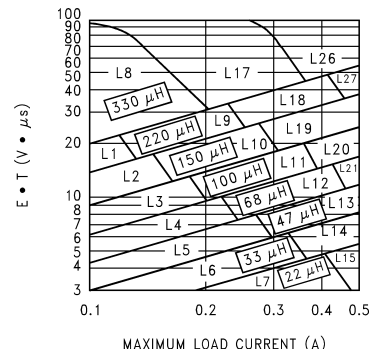

Figure 24. LM2594/LM2594HV-ADJ
<p>2. Output Capacitor Selection (C_{OUT})</p> <p>A. In the majority of applications, low ESR (Equivalent Series Resistance) electrolytic capacitors between 82 μF and 220 μF and low ESR solid tantalum capacitors between 15 μF and 100 μF provide the best results. This capacitor should be located close to the IC using short capacitor leads and short copper traces. Do not use capacitors larger than 220 μF.</p> <p>For additional information, see OUTPUT CAPACITOR section in Application Information section.</p> <p>B. To simplify the capacitor selection procedure, refer to the quick design component selection table shown in Figure 24. This table contains different input voltages, output voltages, and load currents, and lists various inductors and output capacitors that will provide the best design solutions.</p> <p>C. The capacitor voltage rating for electrolytic capacitors should be at least 1.5 times greater than the output voltage, and often much higher voltage ratings are needed to satisfy the low ESR requirements for low output ripple voltage.</p> <p>D. For computer aided design software, see Switchers Made Simple™ version 4.1 or later.</p>	<p>2. Output Capacitor Selection (C_{OUT})</p> <p>A. See OUTPUT CAPACITOR section in Application Information section.</p> <p>B. From the quick design component selection table shown in Figure 24, locate the 5V output voltage section. In the load current column, choose the load current line that is closest to the current needed in your application, for this example, use the 0.5A line. In the maximum input voltage column, select the line that covers the input voltage needed in your application, in this example, use the 15V line. Continuing on this line are recommended inductors and capacitors that will provide the best overall performance.</p> <p>The capacitor list contains both through hole electrolytic and surface mount tantalum capacitors from four different capacitor manufacturers. It is recommended that both the manufacturers and the manufacturer's series that are listed in the table be used.</p> <p>In this example aluminum electrolytic capacitors from several different manufacturers are available with the range of ESR numbers needed.</p> <p style="padding-left: 40px;">120 μF 25V Panasonic HFQ Series 120 μF 25V Nichicon PL Series</p> <p>C. For a 5V output, a capacitor voltage rating at least 7.5V or more is needed. But, in this example, even a low ESR, switching grade, 120 μF 10V aluminum electrolytic capacitor would exhibit approximately 400 mΩ of ESR (see the curve in Figure 26 for the ESR vs voltage rating). This amount of ESR would result in relatively high output ripple voltage. To reduce the ripple to 1% of the output voltage, or less, a capacitor with a higher voltage rating (lower ESR) should be selected. A 16V or 25V capacitor will reduce the ripple voltage by approximately half.</p>
<p>2. Inductor Selection (L1)</p> <p>A. Calculate the inductor Volt microsecond constant $E \cdot T$ ($V \cdot \mu s$), from the following formula:</p> $E \cdot T = (V_{IN} - V_{OUT} - V_{SAT}) \cdot \frac{V_{OUT} + V_D}{V_{IN} - V_{SAT} + V_D} \cdot \frac{1000}{150 \text{ kHz}} (V \cdot \mu s) \quad (4)$ <p>where V_{SAT} = internal switch saturation voltage = 0.9V and V_D = diode forward voltage drop = 0.5V</p> <p>B. Use the $E \cdot T$ value from the previous formula and match it with the $E \cdot T$ number on the vertical axis of the Inductor Value Selection Guide shown in Figure 24.</p> <p>C. on the horizontal axis, select the maximum load current.</p> <p>D. Identify the inductance region intersected by the $E \cdot T$ value and the Maximum Load Current value. Each region is identified by an inductance value and an inductor code (LXX).</p> <p>E. Select an appropriate inductor from the four manufacturer's part numbers listed in Table 5.</p>	<p>2. Inductor Selection (L1)</p> <p>A. Calculate the inductor Volt \cdot microsecond constant ($E \cdot T$),</p> $E \cdot T = (28 - 20 - 0.9) \cdot \frac{20 + 0.5}{28 - 0.9 + 0.5} \cdot \frac{1000}{150} (V \cdot \mu s)$ $E \cdot T = (7.1) \cdot \frac{20.5}{27.6} \cdot 6.67 (V \cdot \mu s) = 35.2 (V \cdot \mu s) \quad (5)$ <p>B. $E \cdot T = 35.2 (V \cdot \mu s)$</p> <p>C. $I_{LOAD(max)} = 0.5A$</p> <p>D. From the inductor value selection guide shown in Figure 24, the inductance region intersected by the 35 ($V \cdot \mu s$) horizontal line and the 0.5A vertical line is 150 μH, and the inductor code is L19.</p> <p>E. From Table 5, locate line L19, and select an inductor part number from the list of manufacturers part numbers.</p>
The output capacitor for many different switcher designs often can be satisfied with only three or four different capacitor values and several different voltage ratings. See the quick design component selection tables in Figure 24 and Table 4 for typical capacitor values, voltage ratings, and manufacturers capacitor types.